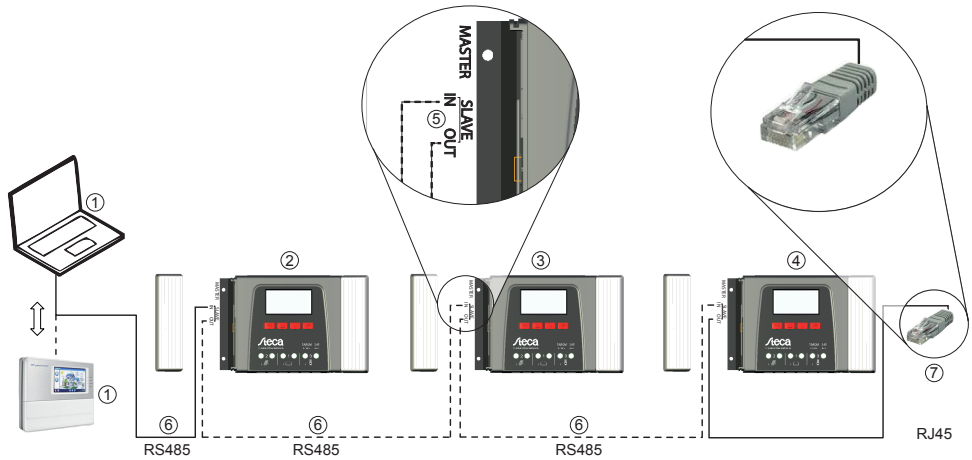

Fig. 2: Wiring the Slave bus
- Only 1 Master may be connected ① (Fig. 2). Possible Masters: PC or data logger or another Steca Master device suitable for use in stand-alone systems.
- Each Slave ②, ③, ④ must have its own unique address within a range of 1 to 99; duplicate addresses must not be present. Set the Slave address of the controller under *'Main menu' ▶ 'System settings' ▶ 'RS485 slave addr.'*
- The Master at one end of the bus and the last Slave at the other end must be terminated ⑦; see Master/Slave instructions.